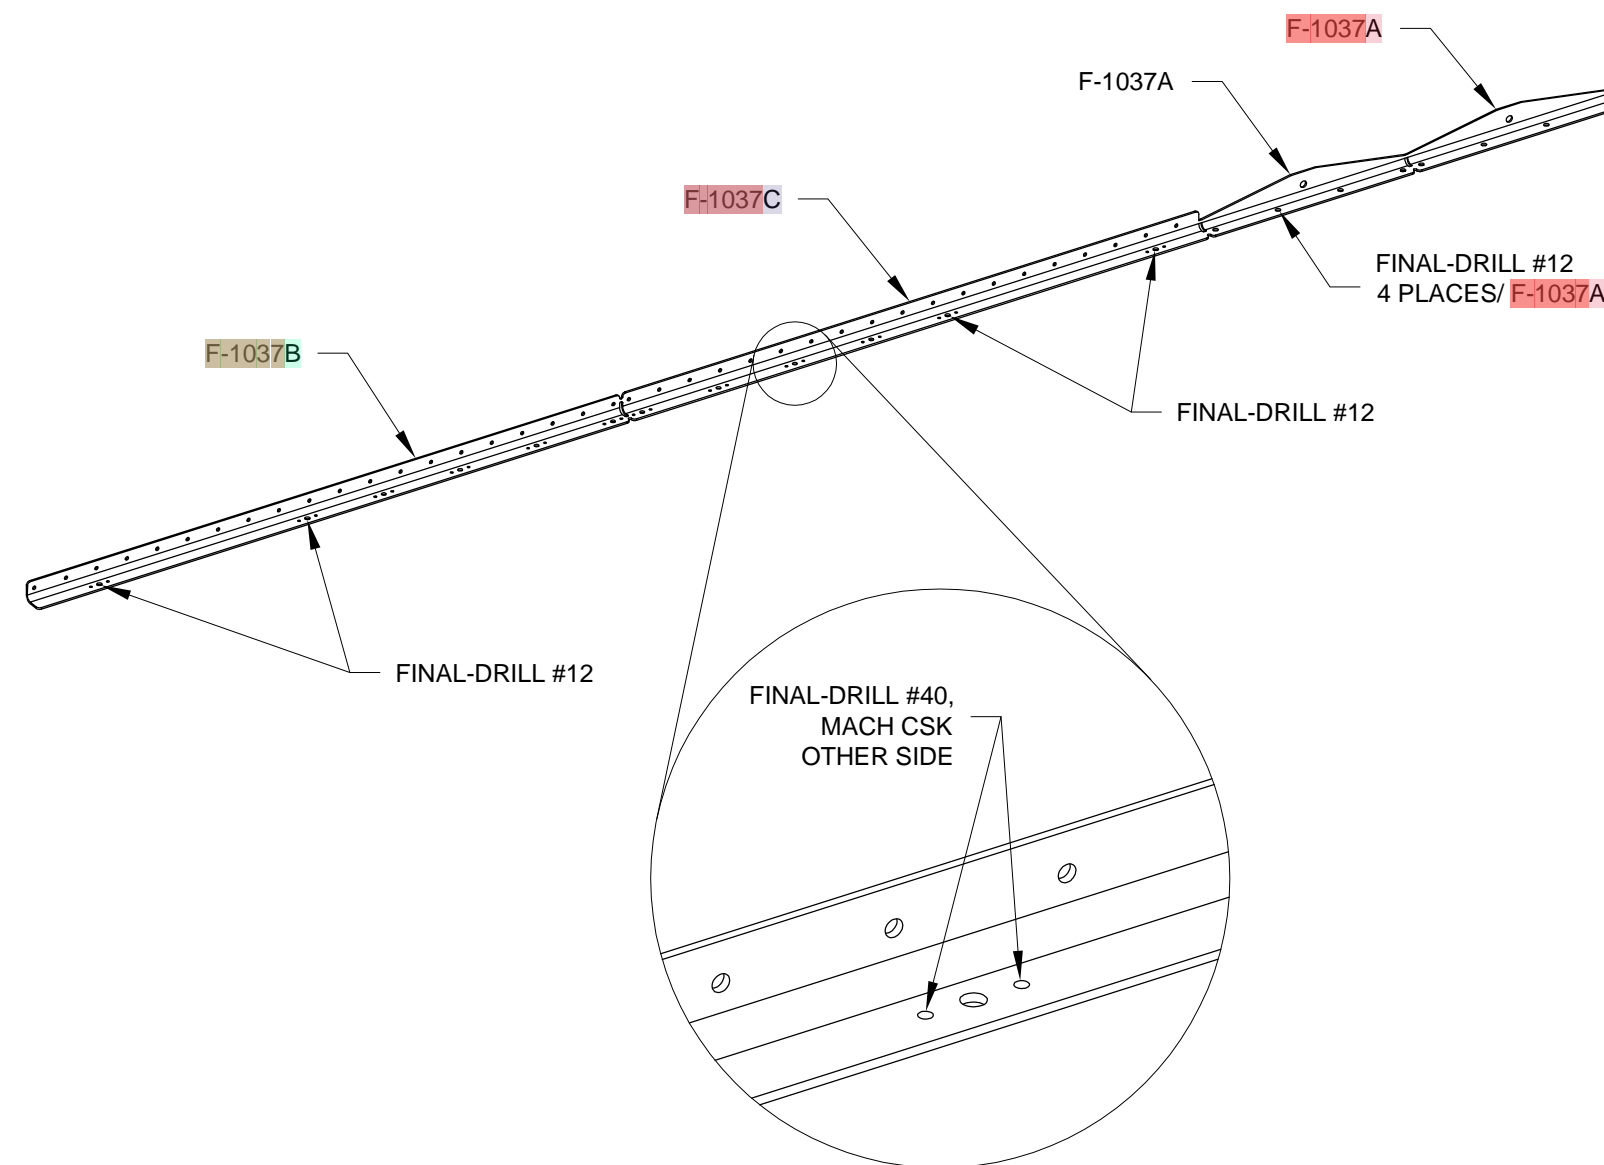

FIGURE 2: F-1037 BELLCRANK RIB ANGLES
Step 4: Final-Drill the 3/32" nutplate attachment rivet holes in both the F-1037-B & C Bellcrank Rib Angles using a #40 drill. Machine countersink these holes flush for 3/32" rivets on the side indicated in the blowup of Figure 2.